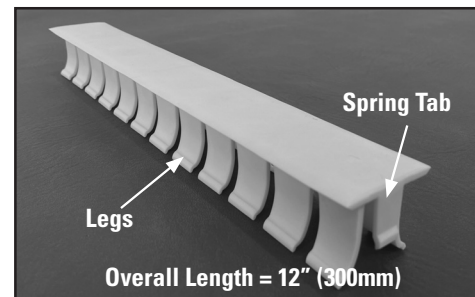

Fig. 1
**Minimum transfer plate length is 4" (100mm) (Fig. 1)**